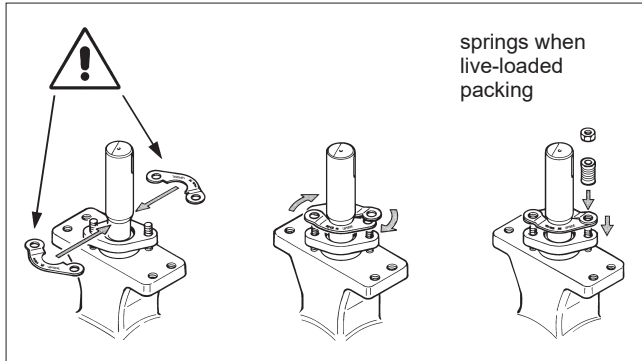
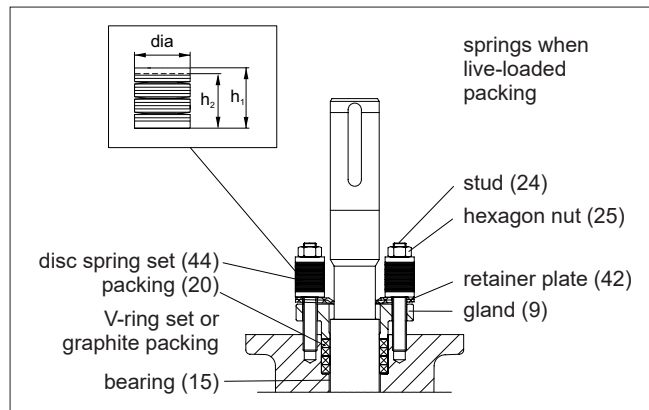

Fig. 10 Mounting the retaining plates
Fig. 11 Gland packing
- Unfasten the nuts (25) and remove the retaining plates (42) and the gland (9) (see Fig. 11).
- Remove the old packing V-rings (20). Do not damage the surfaces of the packing ring counterbore and shaft.
- Mount the retaining plates with the text UPSIDE on top (see Fig. 10).
- Unfasten the nuts (25) and remove the disc spring (TA-Luft) sets (44), the retaining plates (42) and the gland (9) (see Fig. 11).
- Remove old packing rings (20). Do not damage the surfaces of the packing ring counterbore and shaft.